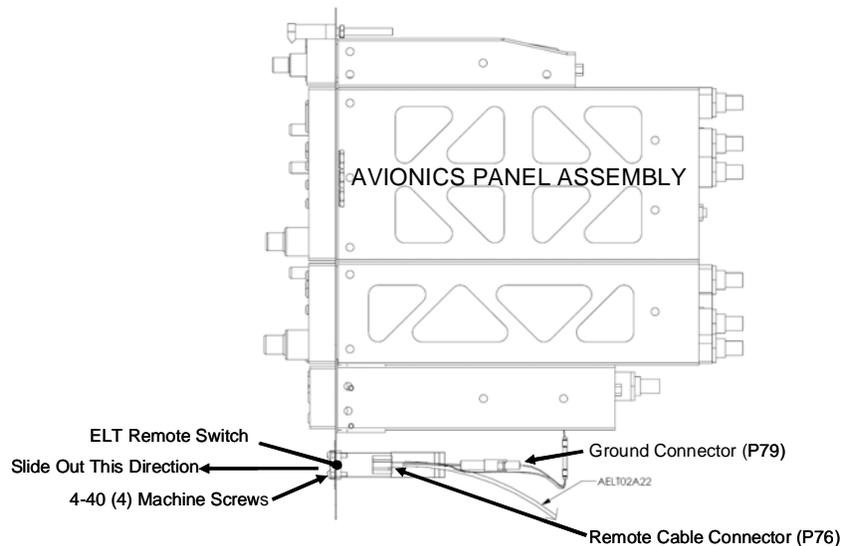

Figure 25-30 Remote Switch Removal
3. Remove four (4) 4-40 machine screws securing the remote switch to the avionics panel. Refer to Figure 25-30 for screw locations.
2. Locate and connect switch extension cable connector (P76) and ground connector (P79). Refer to Figure 25-30 for the location both connectors.